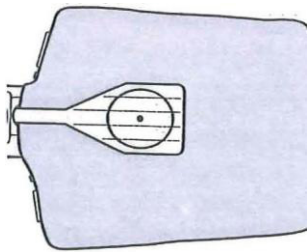

Figure 4
7. The face shield lung bag is then placed on top of the compression plate (the hard plastic piece found on top of the torso foam core) with the oval printed on the face shield lung bag matching the compression plate (Figure 4).